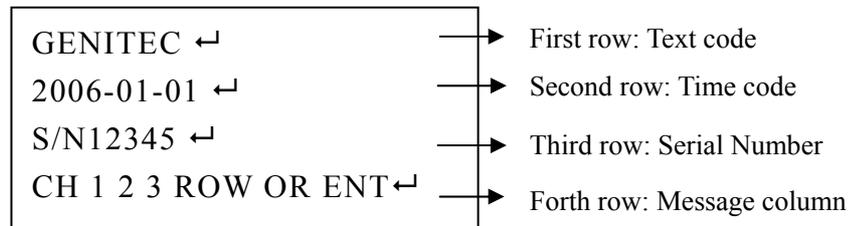

Figure 35
2. Press the button  , panel board will display as below (figure 35) :